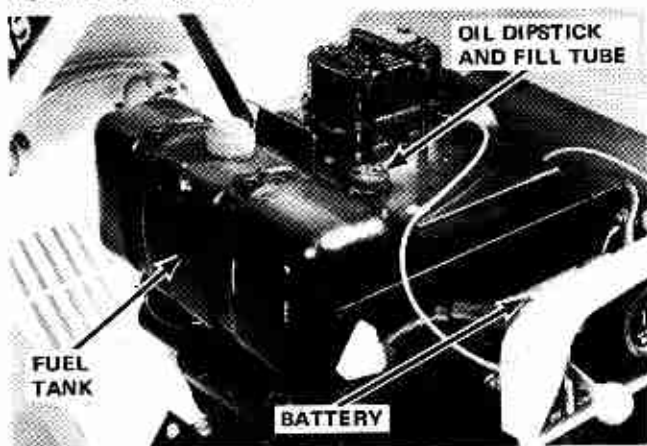

Figure 4
1. Check for proper level of engine oil. Fill crankcase thru dipstick opening. The oil level is indicated by marks on the dipstick. See Figure 4.
Refer to Figure 4 for battery and its location.